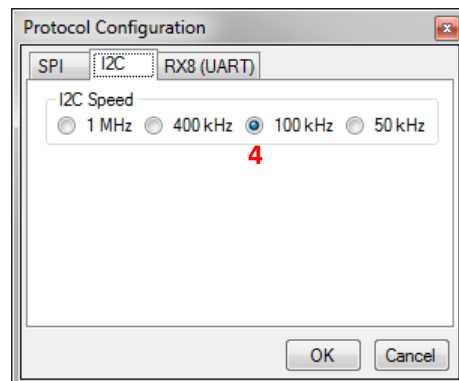

Figure 4: Bridge Control Protocol Configuration
4. Go to "Tools -> Protocol Configuration -> I2C" and verify that 100KHz is selected (Figure 4).